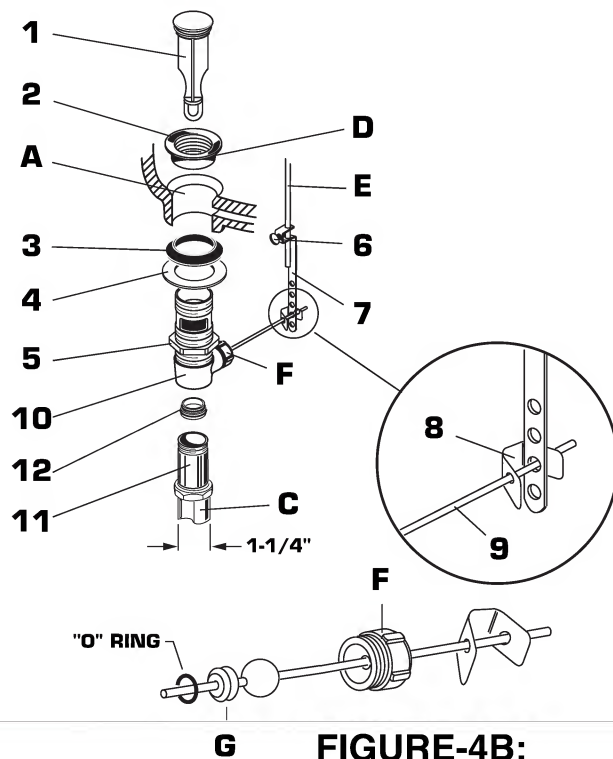

FIGURE-4B:
- Assemble Pivot Rod **(9)** as shown in Figure-4B. Notice the position of the Concave Washer **(G)**.